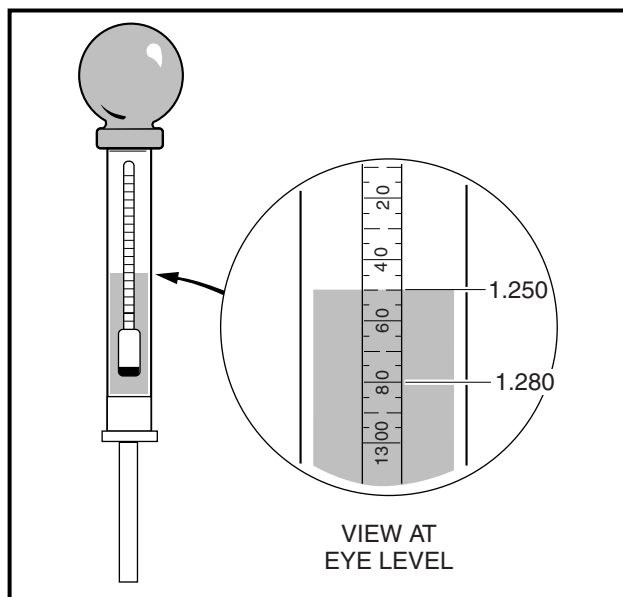

Figure 11-23 Hydrometer Test
A hydrometer (CC 1011478) measures the specific gravity. The higher the specific gravity, the higher the state of charge of the battery. A fully charged battery should read between 1.250 and 1.280 at 80 °F (27 °C). Never add acid to the battery to obtain a higher specific gravity (**Figure 11-23, Page 11-21**).
6. Hold the hydrometer vertically, ensuring that the float is not contacting the sides of the glass tube. Hold the hydrometer at eye level and read the scale at the level of electrolyte (**Figure 11-23, Page 11-21**).